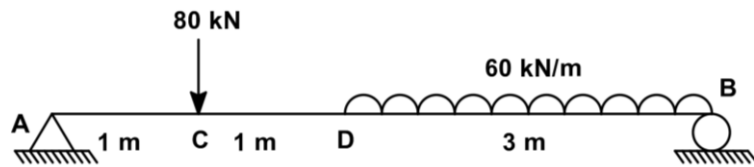

Figure-3
| (c) For the beam shown in Figure-3 , calculate support reactions and plot shear force diagram. Also, obtain value of maximum positive shear force. | 07 |
- (c) For the beam shown in **Figure-3**, calculate support reactions and plot Bending Moment Diagram. Also, obtain value of maximum bending moment in the beam. **07**